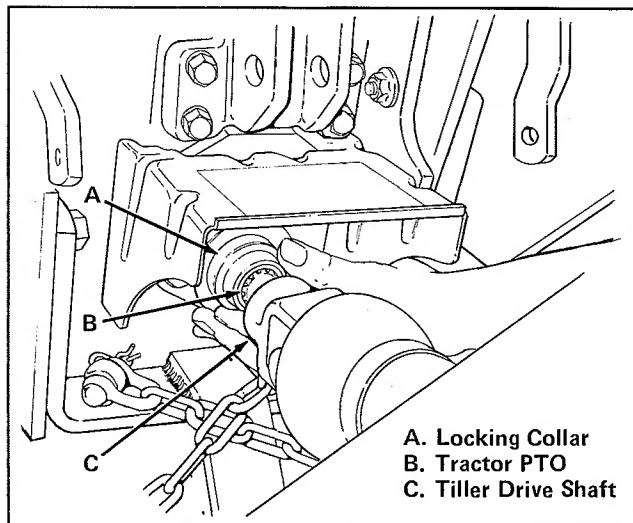

Figure 3. Connect Tiller Drive Shaft
7. Be sure splines on tiller drive shaft (item C, figure 3) are clean. Then push locking collar (item A) forward while inserting drive shaft splines into tractor PTO (item B). Release locking collar when drive shaft splines are fully inserted. Be sure lock is engaged by trying to pull drive shaft out of PTO.
3. Push locking collar (item A, figure 3) forward while pulling tiller drive shaft (item C) out of tractor PTO (item B).